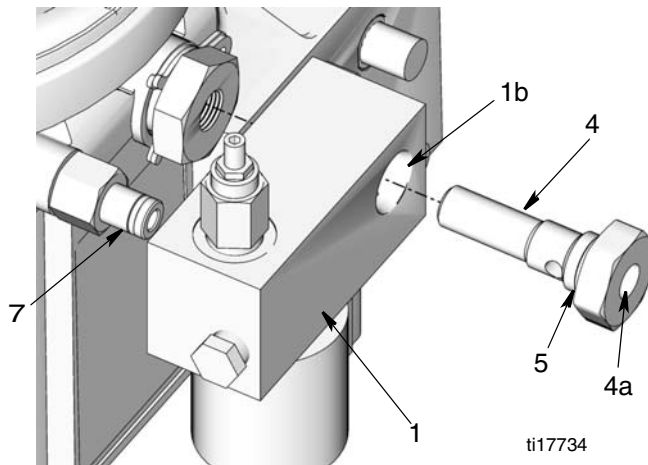

FIG. 5
- Be sure o-ring (5) is installed on bolt (4) as shown in FIG. 5.
- Install vent valve mounting bolt (4) through block (1b) and into G3 pump (FIG. 5). Tighten mounting bolt (4) securely then torque to 35 ft. lbs. (47.45 N.m).